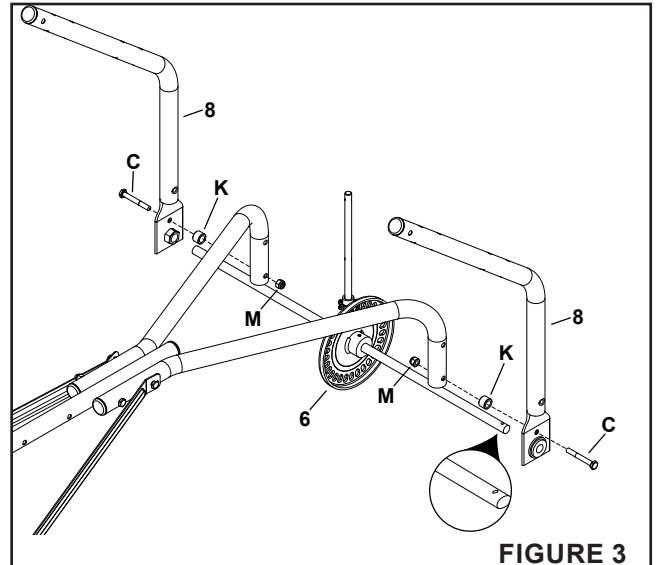

FIGURE 3
Step 3: (See Figure 3)
1. Assemble the axle shaft assembly (6) and hopper tubes (8) to the hitch support tubes as shown using two 1/4" x 2" hex bolts (C), spacers (K), and 1/4" nylock nuts (M). Do not tighten completely.